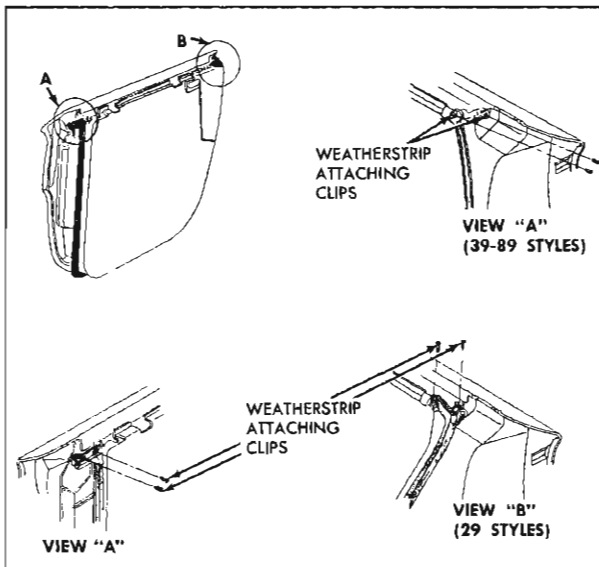

Fig. 32—Rear Door Weatherstrip Attaching Clips
1. Remove snap fasteners securing ends of weatherstrip at belt line of door hinge and lock pillar panels (fig. 32).